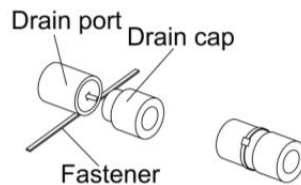

Fig. 4.25
3. When using the drain port on the right side of the unit, reinstall the drain cap to the left side drain port.(Fig. 4.25)